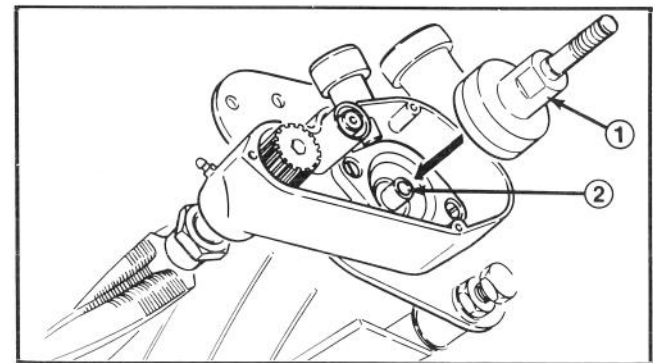

Figure 13
- B. Remove the adapter from the clutch assembly and screw the adapter onto the left reel shaft extension (Fig. 13). Use a piece of wood to hold the reel so that it does not rotate and tighten the clutch adapter to a minimum of 17 ft. lbs. of torque.